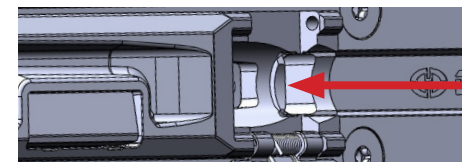

Fig. f-4
4. Pull the charging handle back slowly and view the chamber check window to ensure and confirm there's no cartridge still in the chamber. (Fig. f-4)